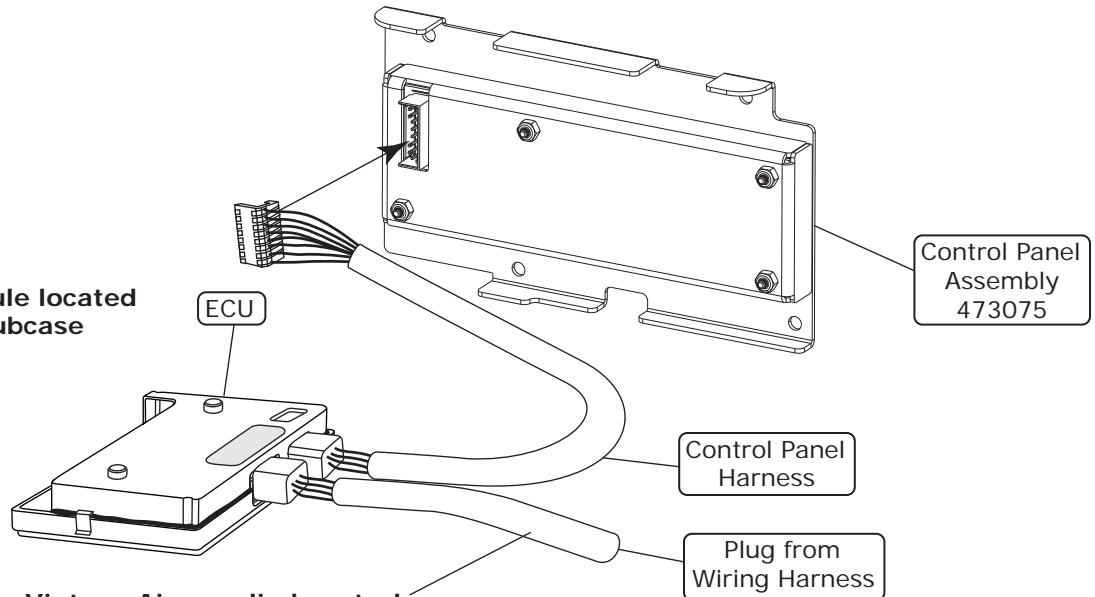

Figure 2
1. Plug the control panel harness into the ECU and control panel PC board assembly as shown in Figure 2, below.